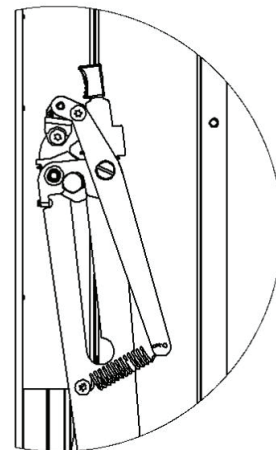

FIGURE 1
5. Optional Self-Closing Mechanism: Integrated in hold open arm assembly. (Figure 1)